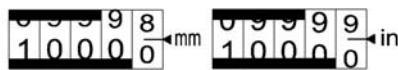
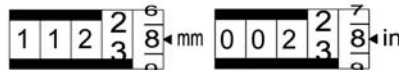

Fig. 4.3
Fig. 4.4
a) The reading is taken in two parts. The first is the readings to the left of the decimal point and the second is the reading taken to the right of the decimal point. For example in Fig.4.3 the reading is 0.9999" or 9.999mm as the numbers to the left of the decimal point have not yet completely rolled over. The reading in Fig. 4.4 is 0.0228" or 11.228mm. In Fig.4.5 the reading is 0.0170" or 11.170mm, and the reading is 0.0311" or 11.341mm in fig. 4.6.